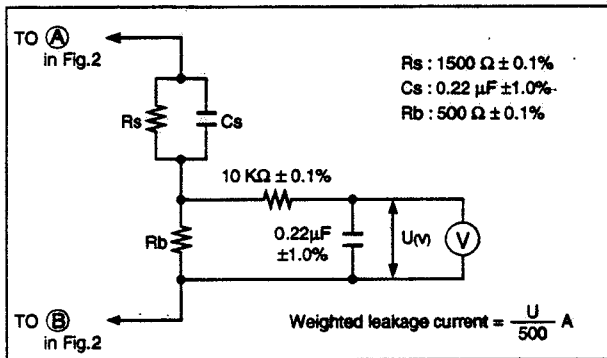

Fig. 1
1. Assemble the measuring instrument as shown in Fig.1. Be sure to use the voltmeter equipped with performance described in Table 1.
That is to say, both of the values calculated from the formula shown in Fig.1 should not be 0.75mA nor exceed 0.75mA.